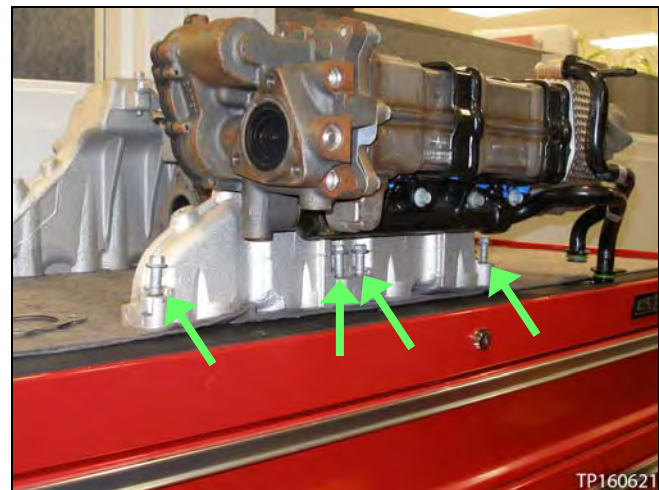

Figure 78
23. Install all eight (8) intake manifold bolts in place (see Figure 78).
- Figure 78 does not show the four bolts on the other side of the intake manifold.